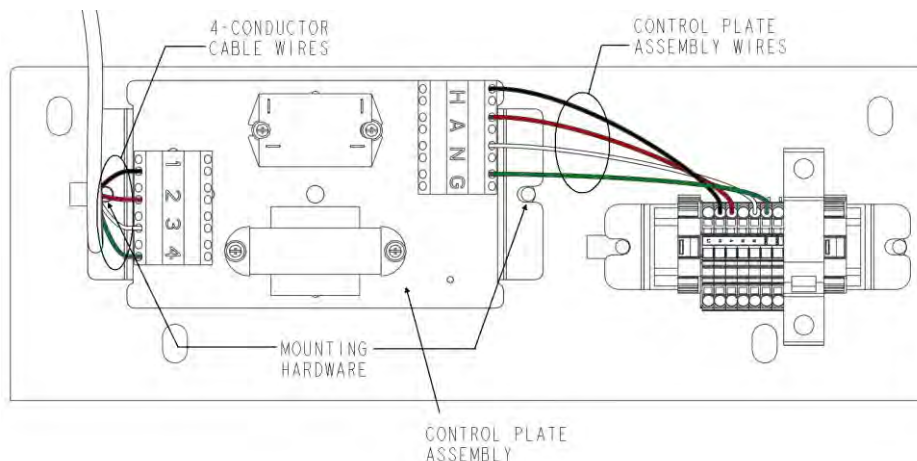

Figure 1 - Controls Mounting Plate Installation
- 3.4. Use the provided wire-tie to secure the 4-conductor cable to the gage tubing on the left side of the motor blower assembly. Temporarily leave the entire length of cable in the unit. Figure 1 provides the finished assembly.